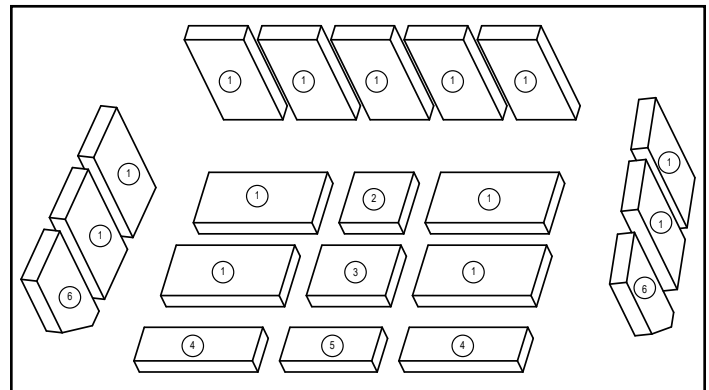

Figure 5.1
2. Remove new brick set from box and lay out to diagram shown in Figure 5.1.